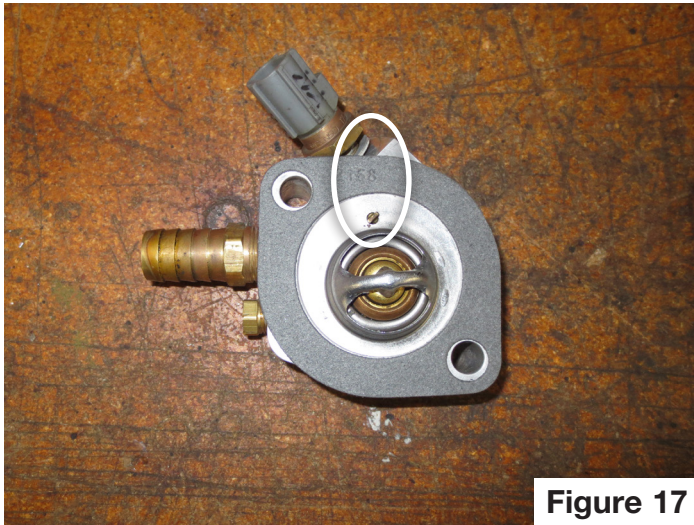

Figure 17
- 17) Install the thermostat in the recessed groove in the spacer as shown with the air bleed hole at the top as shown. The bleed hole should be clocked so that it is closest to the factory coolant temp sensor. Peel off the backing and stick a new thermostat gasket on both sides of the reroute spacer. The gasket should overlap over the thermostat slightly and help hold it in place. The bleed hole in the thermostat should be clocked so that it is closest to the factory coolant sensor. Place the new radiator hose outlet neck on the spacer oriented with the outlet neck opposite the heater hose barb as shown. **Figure 17.**